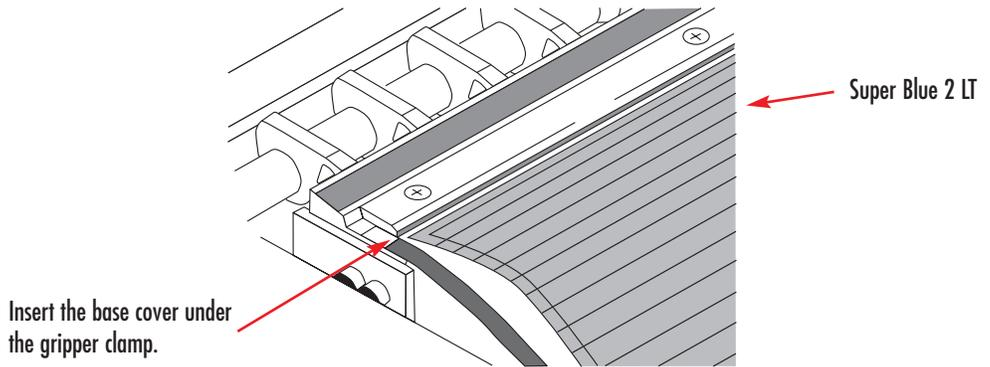

Figure 2
6. Insert the Super Blue LT system under the gripper clamping bars approximately $\frac{1}{8}$ " to $\frac{3}{16}$ ". Be sure that the Super Blue LT system is centered on the transfer cylinder and tighten the flat head screws. (See Figure 2.)